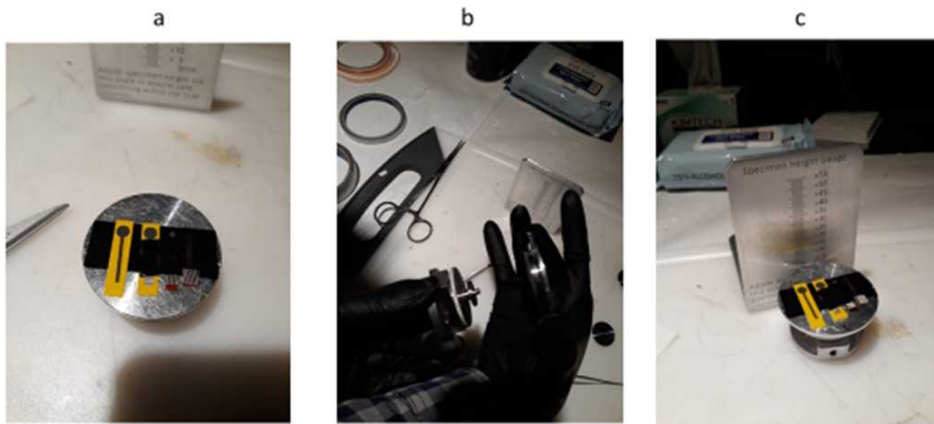

Figure 3. A) Samples in the holder. B) Put the bottom part of the sample in the holder. C) Verify the height of the holder
- Put the holder on the camera. The holder must reach the top (Fig 3)